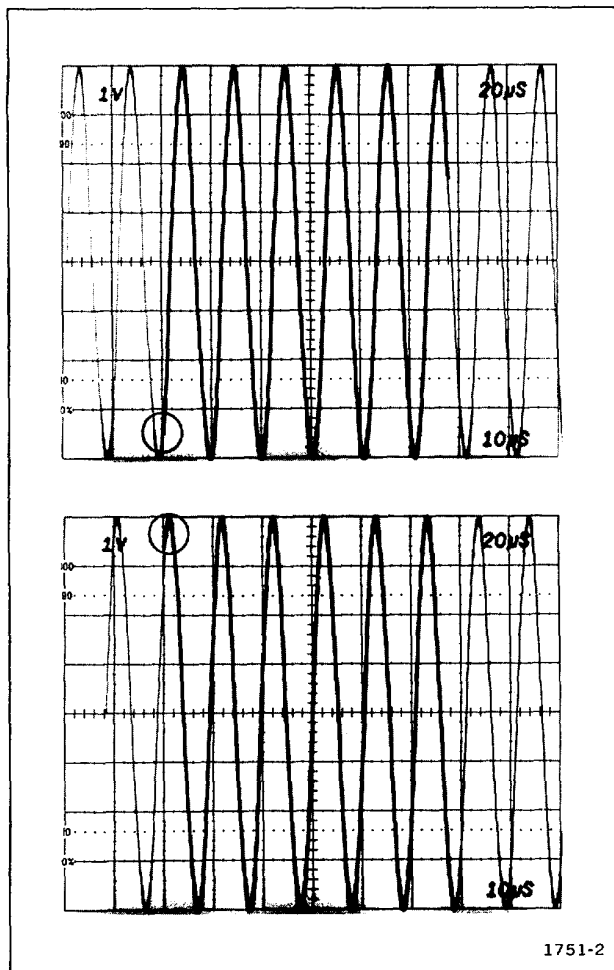

Fig. 5-8. Delayed Triggering level range. (circle denotes triggering limits.)
c. Check that all levels of the positive slope of the intensified zone may be selected for the sweep starting point as the Delayed Triggering LEVEL control is rotated throughout its range, and that triggering occurs at least 3.5 divisions above and below the center horizontal graticule line. See Fig. 5-8 for reference.